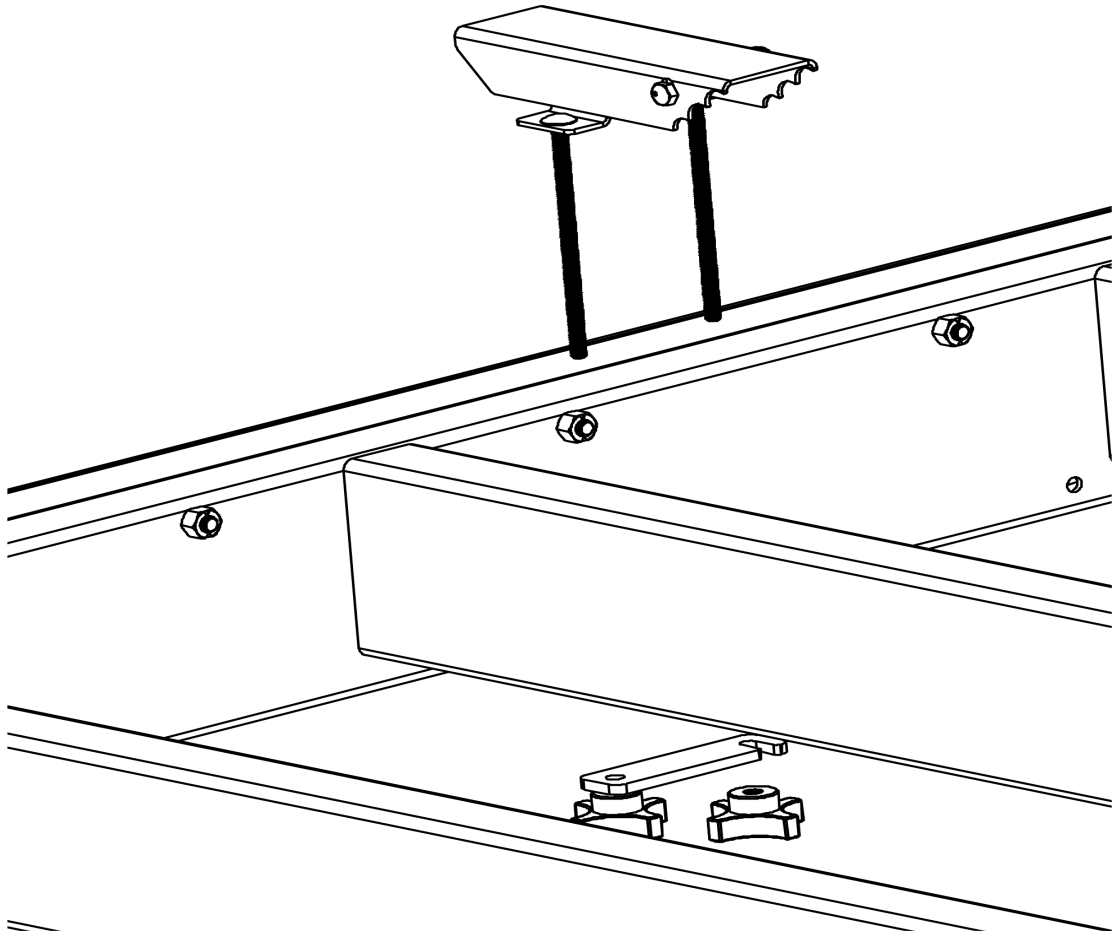

FIG. 3-8
1. The Planer includes (4) Clamp assemblies for securing material to the bed. These clamps ride along the cross rails of the bed section and are secured from underneath using the clamp bracket plate and (2) star knobs for each clamp. See FIGURE 3-8